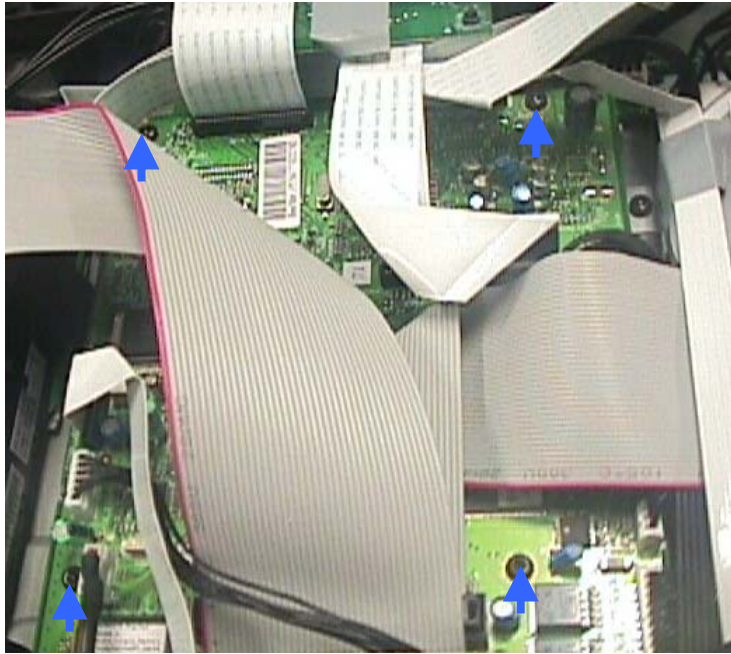

Figure 9 - Remove mounting screws for Digital Board
- 1) Remove 4 screws to loosen the Digital Board 1003 as shown in Figure 9.